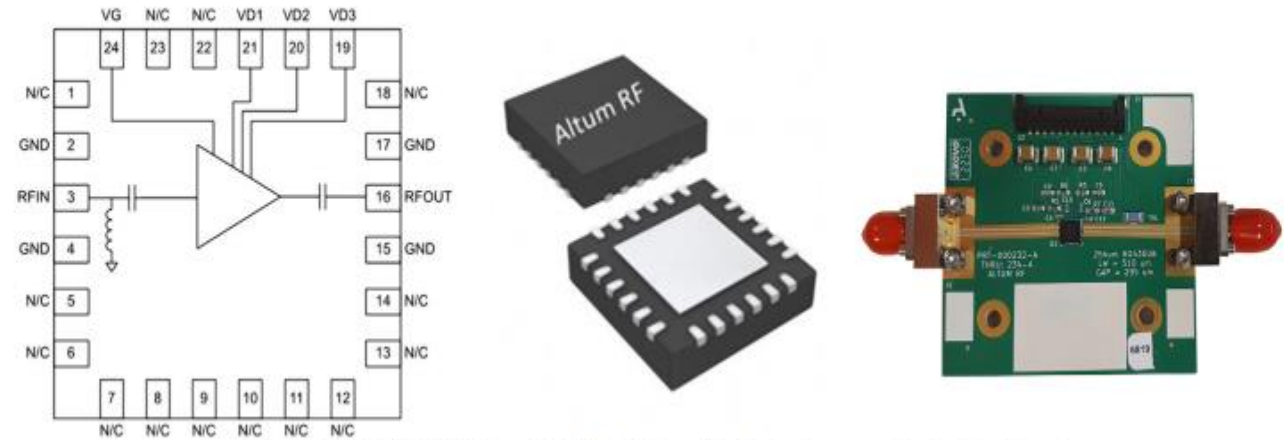

Figure 2: ARF1108Q4 Pinout, 24-Pin 4X4 mm² QFN Package, and Evaluation Board
- A standard pinout and package outline drawing is illustrated below in Figure 2. A performance summary of these PAs is listed below in Table 1
effective GaAs pHEMT process and housed in a 4X4 mm² QFN plastic package. A standard pinout and package outline drawing is illustrated below in Figure 2. A performance summary of these PAs is listed below in Table 1.